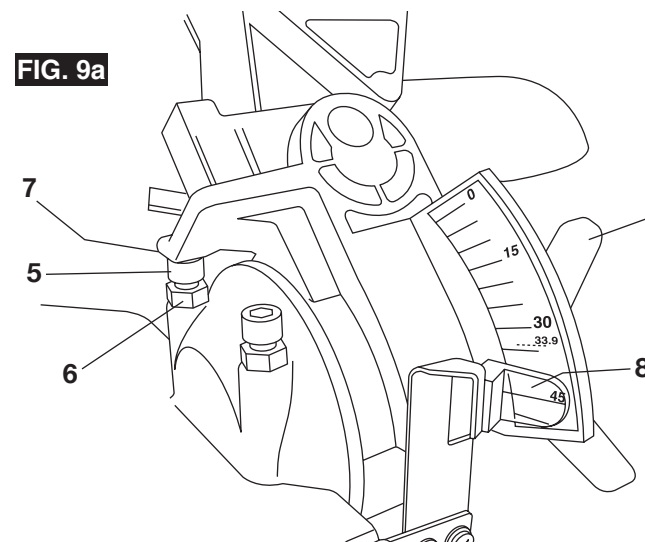

FIG. 9a
- g. Adjust 45° bevel stop screw **5** so that the hex screw head hits the 45° stop **7** at the same time the blade makes contact with the full length of the square. Tighten 45° jam nut **6** (Figure 9a).
- h. Check that bevel indicator **8** is pointing to the 45° mark on the bevel scale (see Figure 9a). If bevel indicator is not aligned with the 45° mark, first recheck the blade squareness to the table and 0° bevel indicator alignment. Then, repeat the 45° blade alignment and make appropriate adjustments.